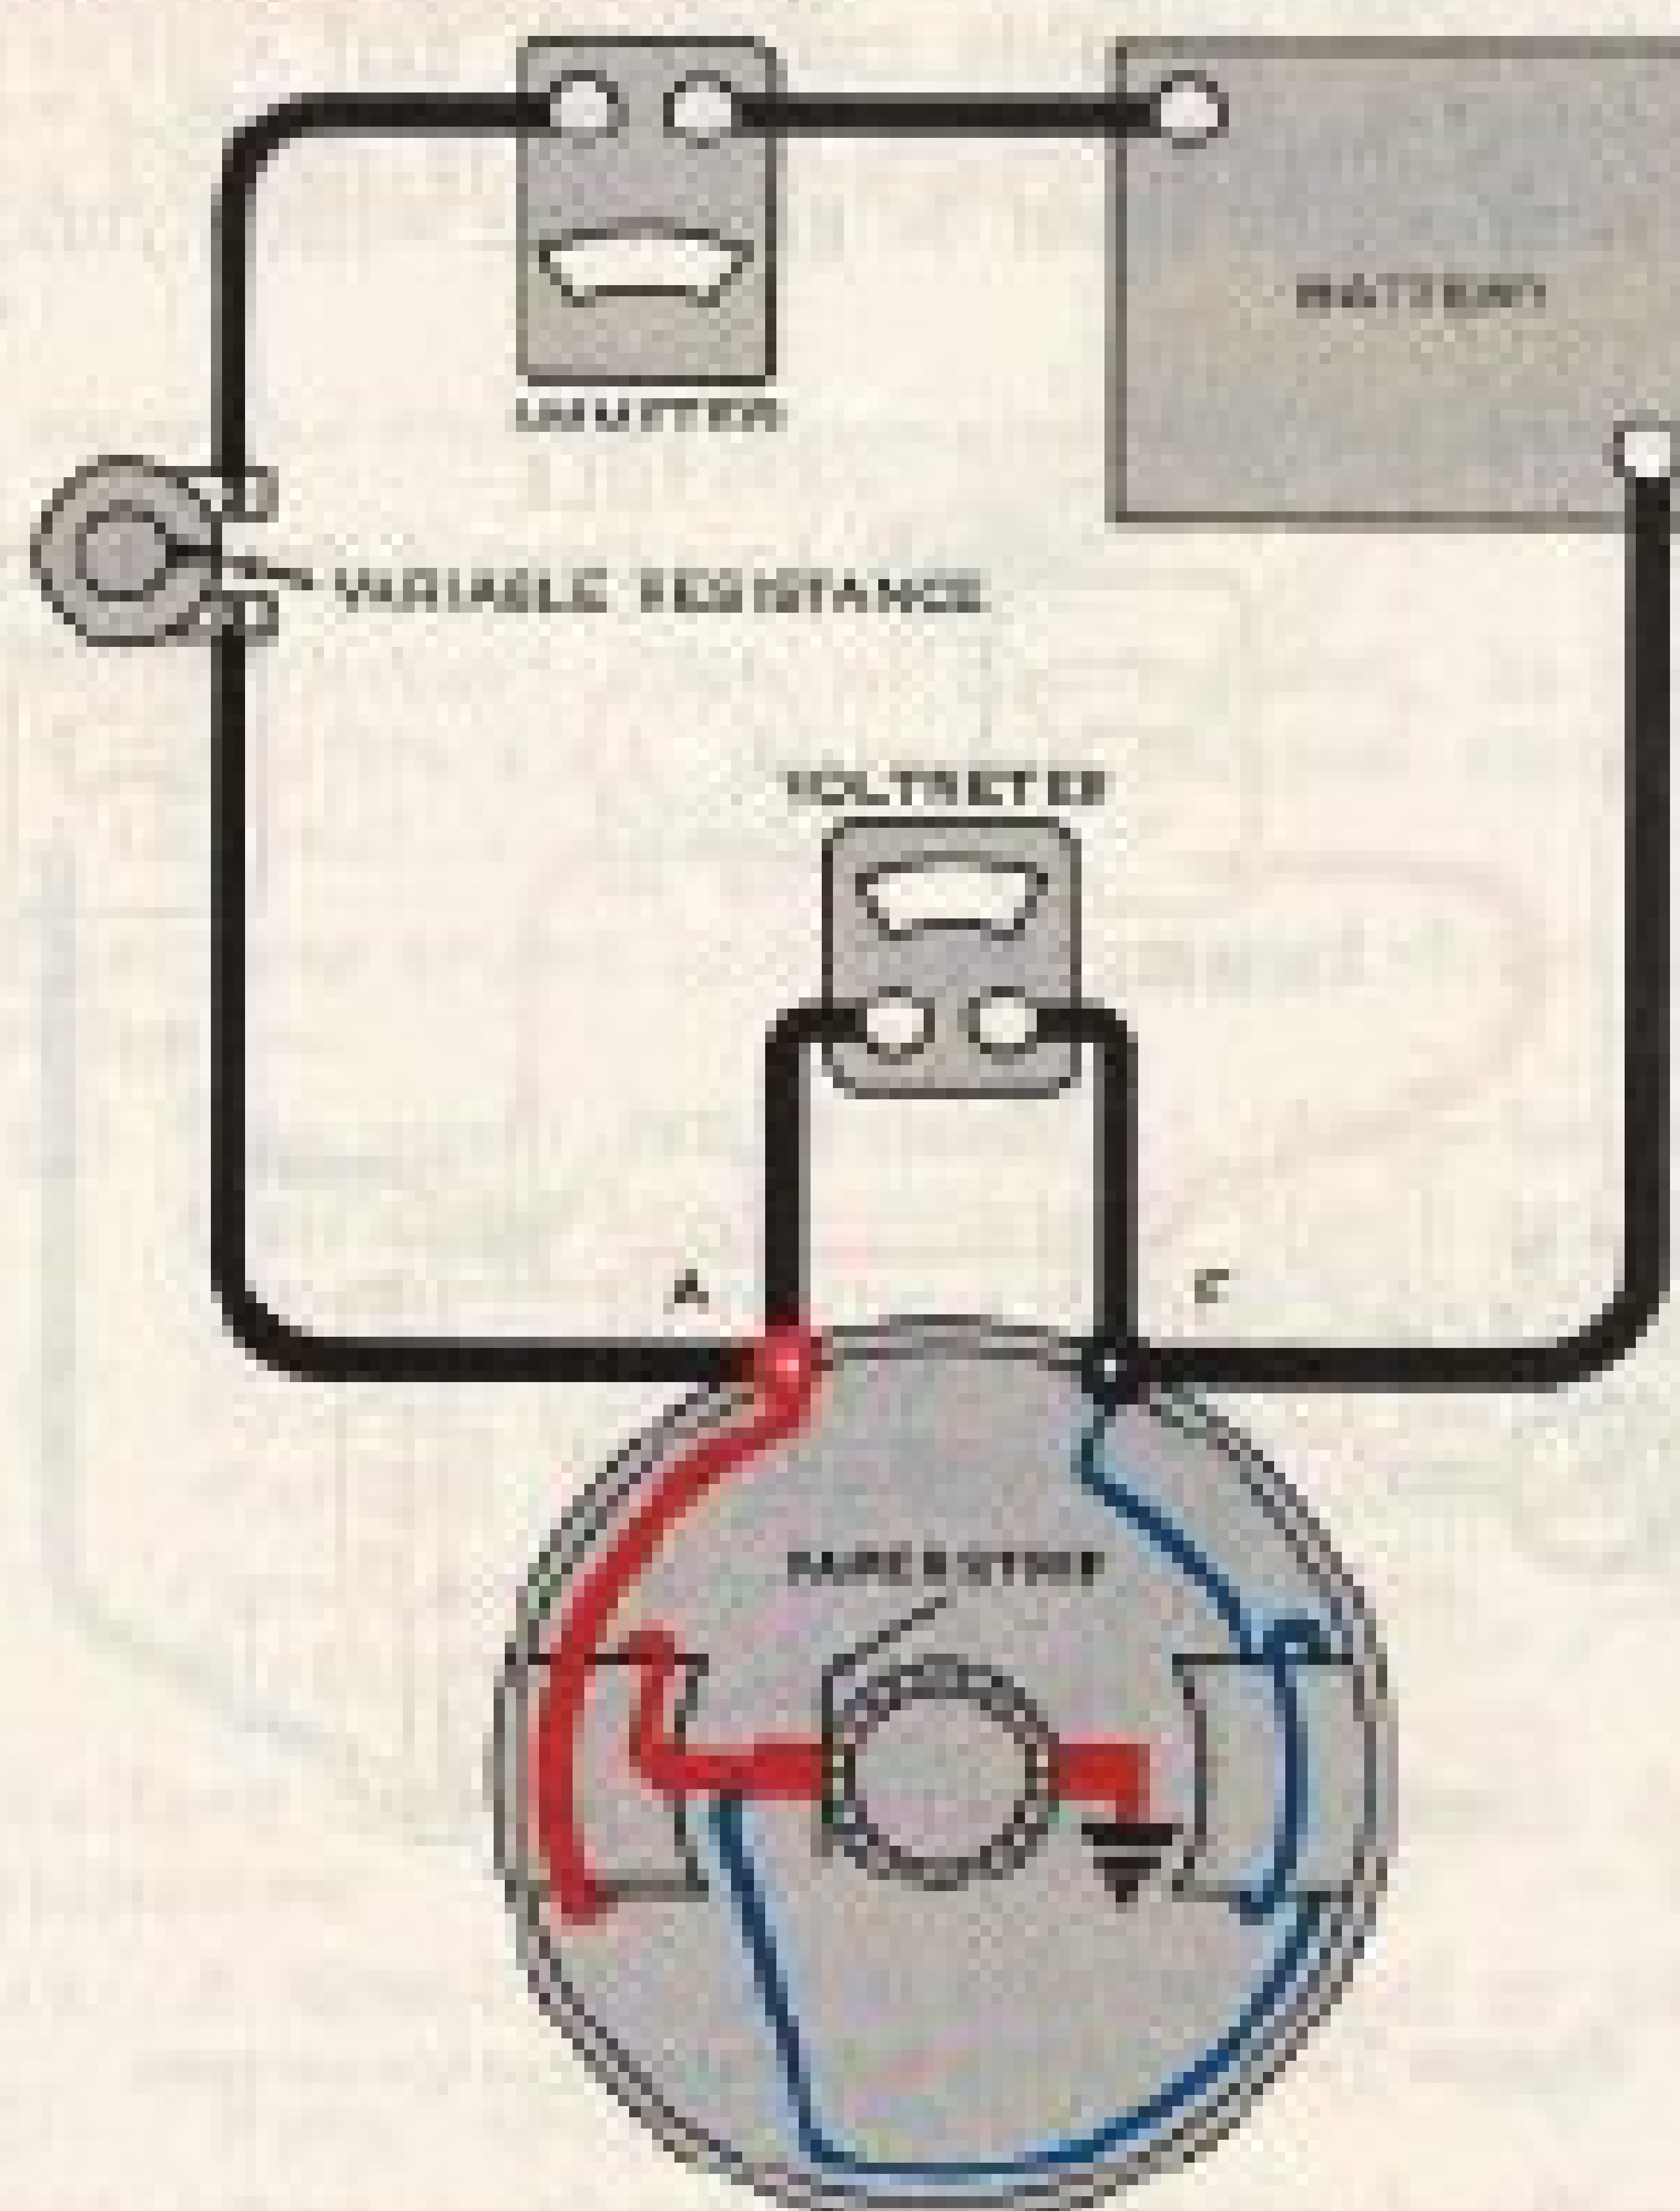

Figure 10—Check for shorted field coils. On three terminal motor-generators, connect from "F" to "N" terminal.
1. If the field is not open, check for a short circuit in the field (Fig. 10) by connecting a battery and an ammeter in series with the field circuit. Proceed with care, since a shorted field may draw excessive current which might damage the ammeter. If the field coil current draw is not within specification for the specified voltage, new field coils will be required.